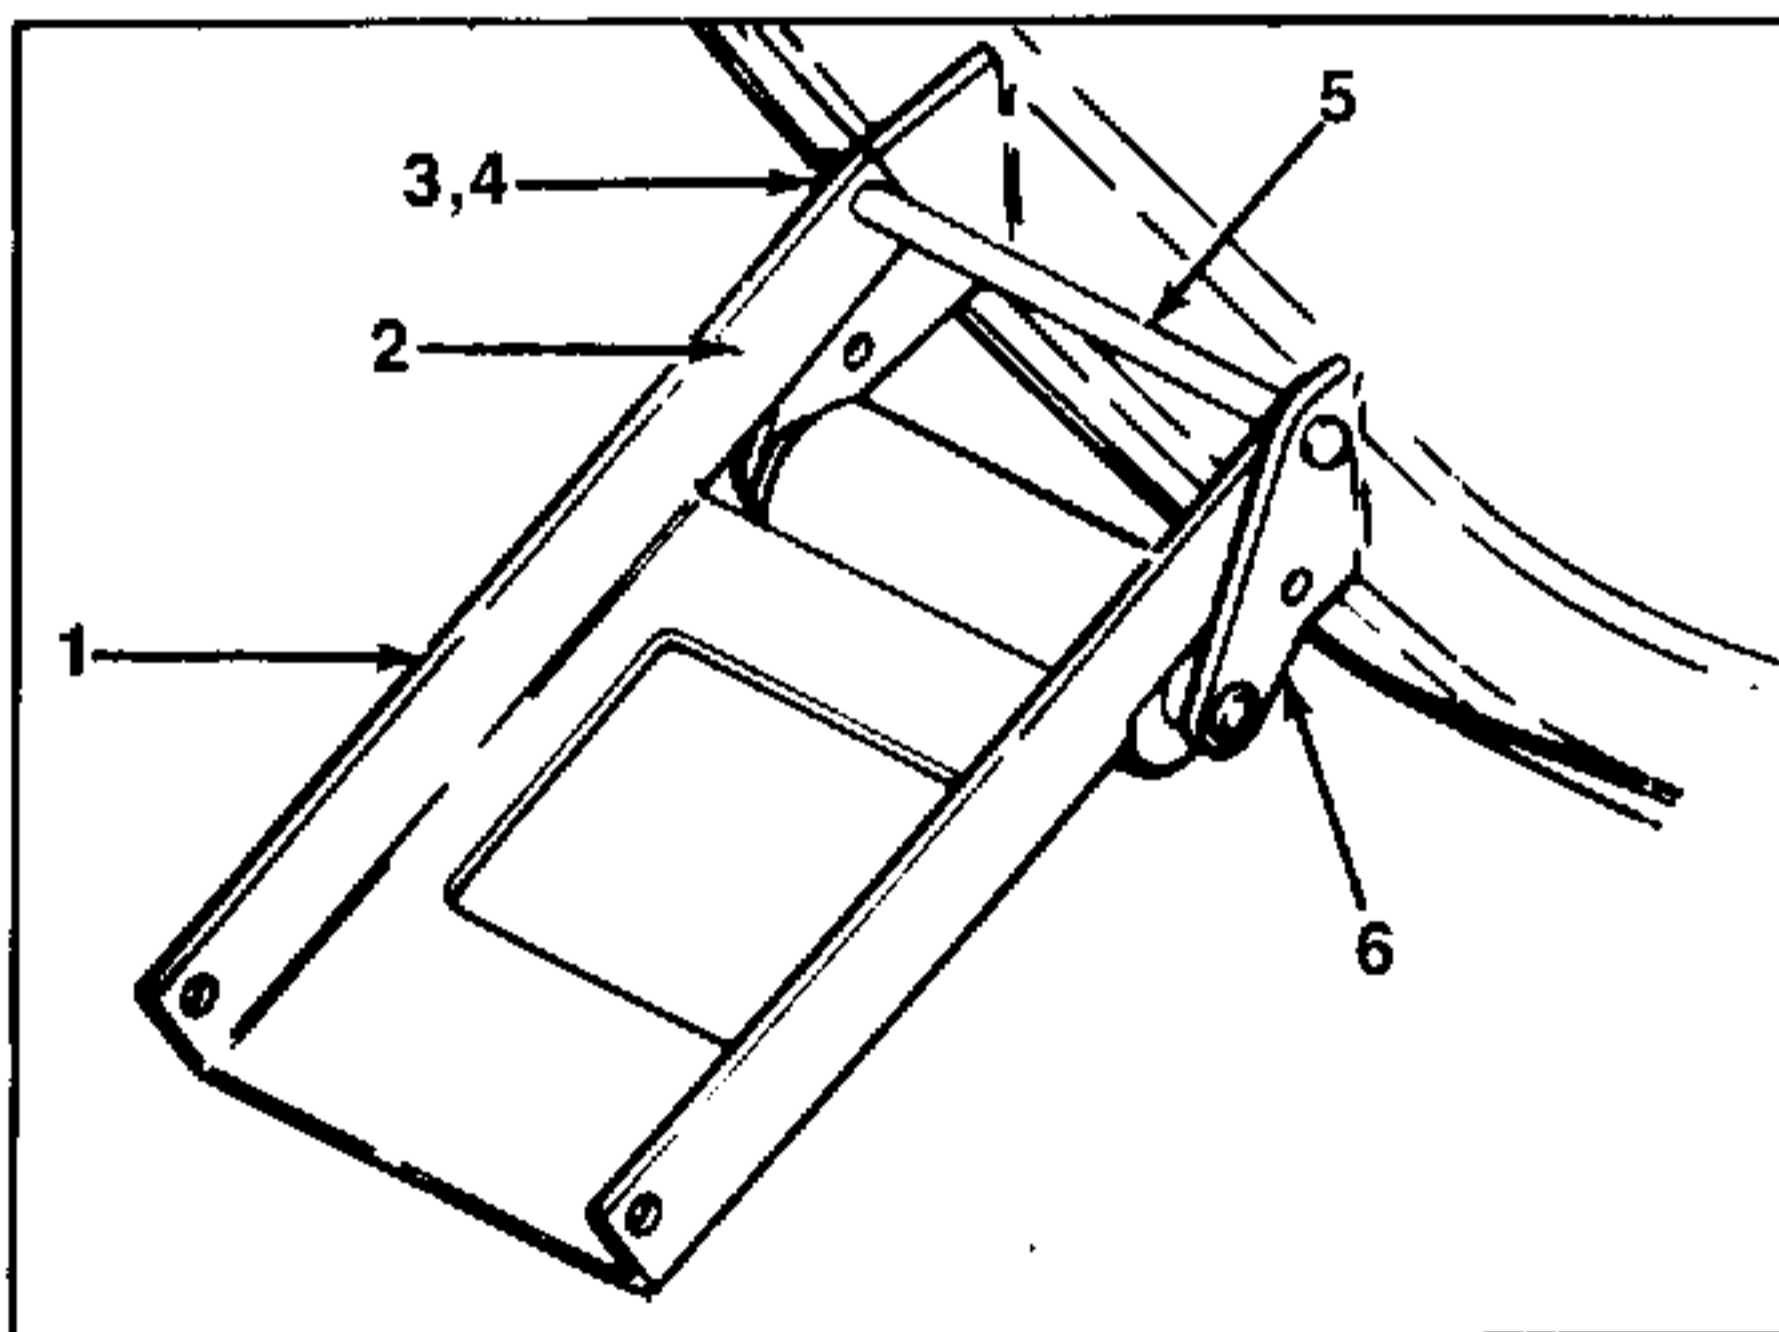

FIGURE 8.
8. Refer to figure 8 to determine the proper positioning of the front hanger assembly in relation to the tractor and deck. Note that when the front hanger assembly is properly positioned, the hanger extensions face the rear of the tractor, and the top hole of the front hanger assembly is open. Attach the rear of the front hanger assembly to the top of the